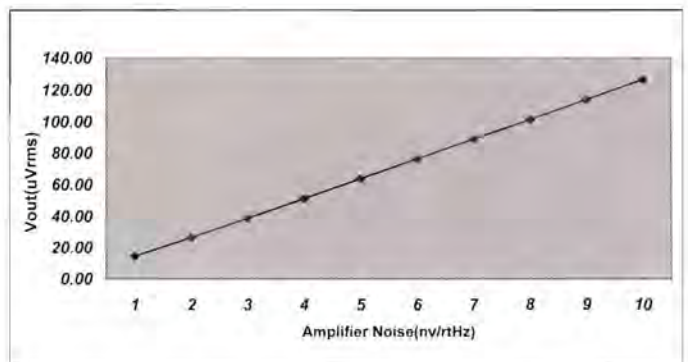

Figure 10: Optimised design for Vout vs noise. Following guidelines produces design for optimum noise performance
If you use the above guidelines, you will be able to optimise the circuit's noise performance, as shown in **Figure 10**. In this example, an amplifier with lower bandwidth (1MHz) is used, along with smaller resistors (R1 = 10Ω and R2 = 1000Ω) and a lower gain (100). As an example, for a given 5mV of signal to measure, the output signal will be 500mV. Picking an amplifier that has a 5nV/rtHz of noise will generate 63.7mV rms or approximately 370μV peak-peak of noise. This allows the usage of a 12-bit ADC.